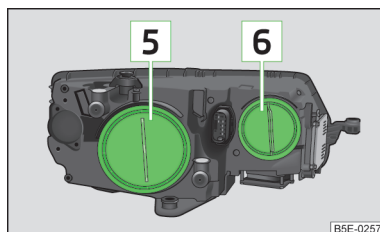

Fig. 221
- Remove the rubber cover **6** » Fig. 221 on page 256.